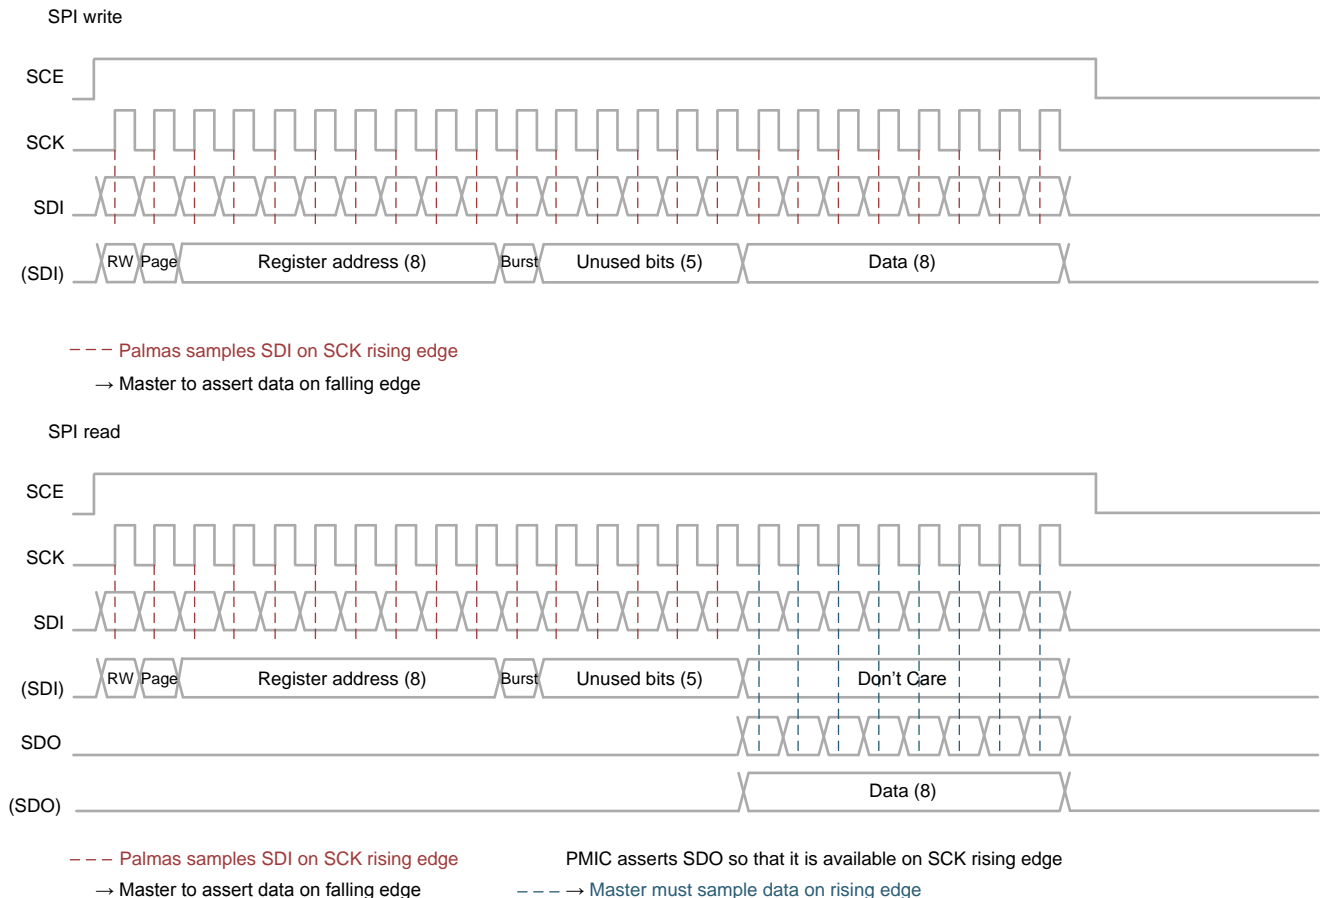
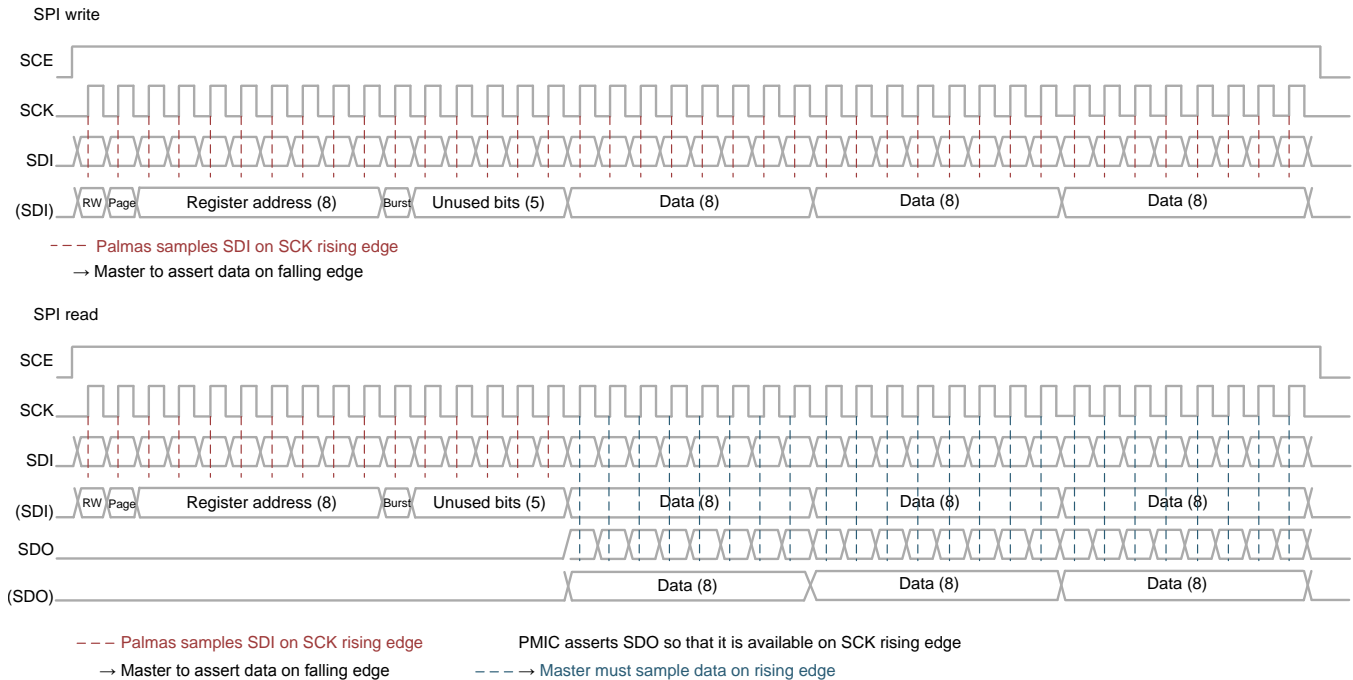

Figure 5-21. SPI Single Read and Write Access
FIG 5-22. SPI Burst Read and Write Access
- This mode consists of fetching and storing several data at contiguous locations. The protocol is shown in Figure 5-22.
Figure 5-21 shows the SPI protocol for a single read and write access. Figure 5-22 shows the SPI protocol for a burst read and write access.